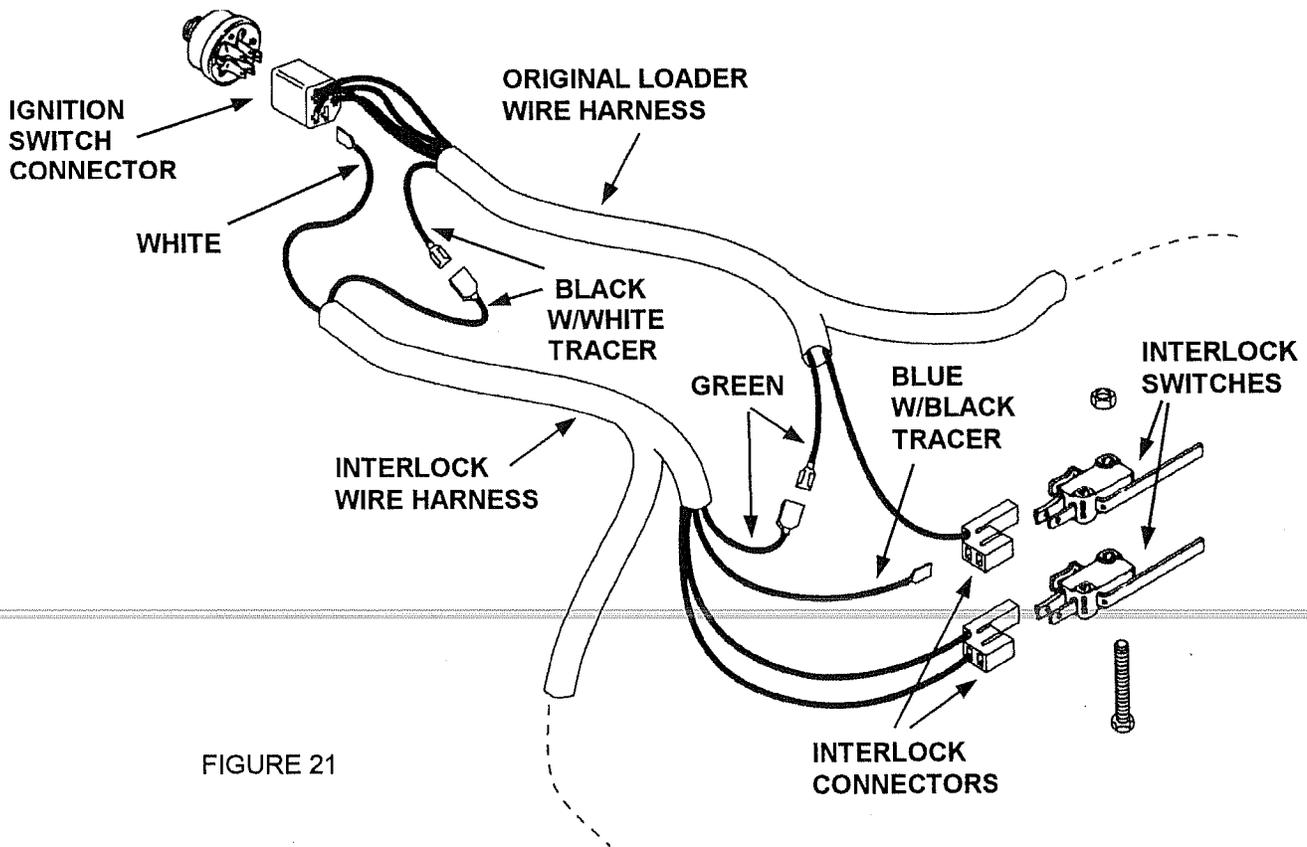

FIGURE 21
9. (See figure 21) Mount interlock switches to travel control bracket. Two are now required. Use the two #40 x 1-1/8" screws and #40 nuts. Remove the clamp from the foot pedal.
10. Connect wires as shown in figure 21. Make sure the connectors are locked in place.